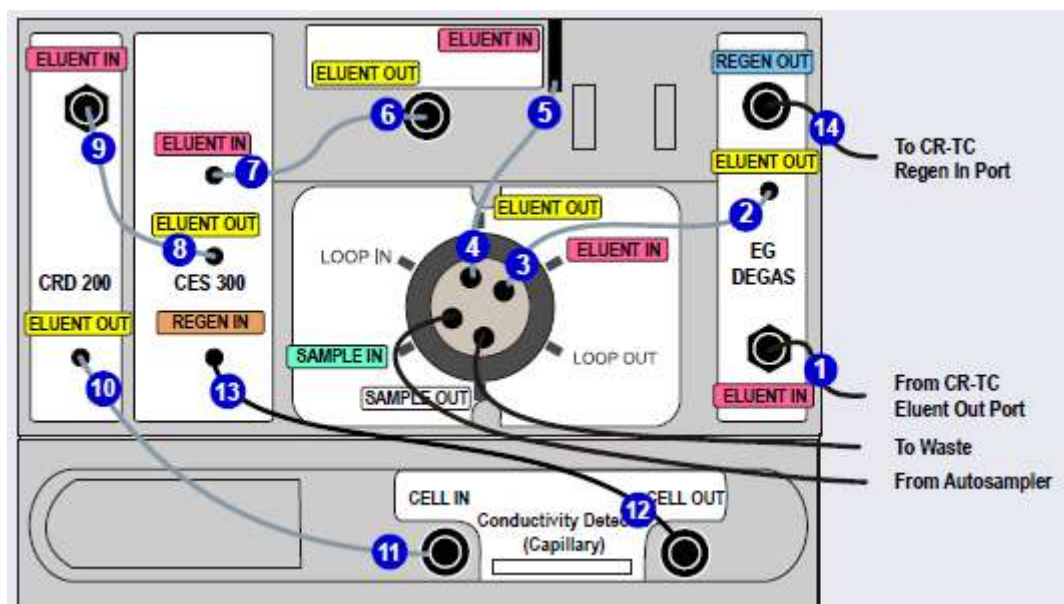

Figure 6
The AutoSuppression Recycle Mode is the easiest method of operation. As the eluent passes through the suppressor, it is neutralized to produce its weakly ionized form. After passing through the conductivity cell, this effluent can be redirected to the regenerant inlet of the suppressor, thus supplying it with a source of water containing a small amount of diluted analyte (see Figure 6). The main advantage of this mode is its simplicity and ease of use. It is not necessary to have an external supply of water available for the suppressor.
- B. Connect the outlet of the capillary column to the ELUENT IN of the Dionex CES 300 (Connection 7 in Figure 6).
- C. Connect the ELUENT OUT port of the Dionex CES 300 to the inlet of the Dionex CRD 200 (Connection 9 in Figure 6) if a Dionex CRD 200 is installed, or to the inlet of the conductivity cell (Connection 11 in Figure 6) if no Dionex CRD 200 is installed.
- D. Connect the REGEN IN port of the Dionex CES 300 to the outlet of the conductivity cell (Connection 12 in Figure 6) using the black (0.010") REGEN IN tubing.
- B. Connect the outlet of the analytical column to the ELUENT IN of the Dionex CES 300 (Connection 7 in Figure 6).
- D. With no current applied, adjust the external water flow rate to approximately 0.050 to 0.10 mL/min by using a graduated cylinder and measuring the flow from the REGEN OUT line of the EG Degas cartridge (Connection 14 in Figure 6). The pressure applied to the reservoir can vary from 0–25 psi (the lower and upper pressure limits of the water reservoir) but the typical operating pressure is between 10–15 psi. Please note that this value is highly system dependent. After turning on the current, the external water flow rate will be less because the electrolysis of water will generate a small amount of hydrogen and oxygen gases that will be seen as bubbles from the REGEN OUT waste line. The flow rate with current turned on should be at least equal to the eluent flow rate.
For peristaltic pump plumbing refer to the “MASTERFLEX® C/L® Peristaltic Pump Quick Start Guide” (P/N 065203). Pump the Deionized water into the REGEN IN port of the Dionex CES 300 using the peristaltic pump at 0.050 mL/min. Use a graduated cylinder and measure the flow from the REGEN OUT line of the EG Degas cartridge (Connection 14 in Figure 6).